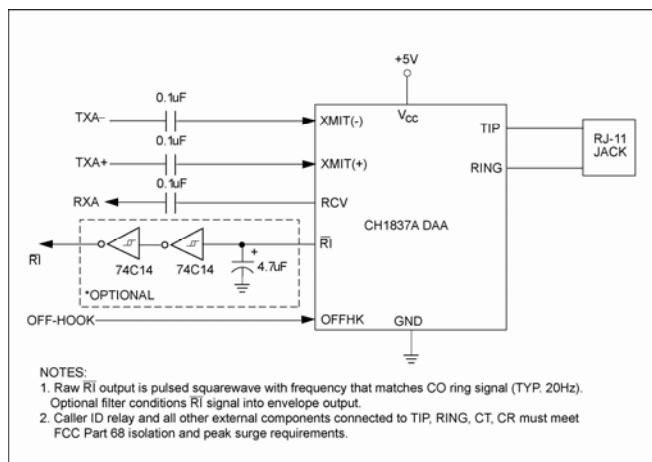

Figure 3. Typical Application.
Ring Detection. To announce an incoming call, the telephone company's central office (CO) applies an AC ringing signal to the PSTN line. The CH1837A/8A is designed to detect this signal. The CH1837A/8A uses the AC ring signal to produce a square wave pulse train output at the CH1837A/8A RI pin. This pulse train is the same frequency as the incoming AC ring signal and is typically 20 Hz. Figure 3 shows external filtering which may be employed to provide an envelope indication of the ring signal using the CH1837A/8A RI output. The ring detection circuit in the CH1837A/8A family is designed to deter false indications caused by pulse dialing or noise on the PSTN line.
CH1837A. The user presents all outgoing transmit signals to the XMIT(-) pin with respect to GND for single ended operation or between XMIT(-) and XMIT(+) for differential operation. This signal must be AC coupled through a 0.1 μ F capacitor present on both the XMIT(-) and XMIT(+) pins as shown in Figure 3.
For single-ended operation, the outgoing analog signal is applied to the XMIT(-) pin with respect to GND. This signal must be AC coupled using a 0.1 μ F capacitor as shown in Figure 3. In single ended signal operation, the XMIT(+) pin must be connected to GND through a 0.1 μ F capacitor.
CH1837A. The CH1837A derives the incoming signal and presents it at RCV with respect to GND. The user must AC couple RCV through a 0.1 μ F capacitor as indicated in Figure 3.